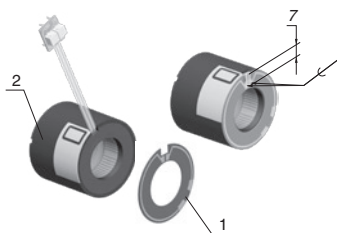

FIGURE D-3. INSTALLATION OF THE BOARD TO THE VARIABLE GAIN TUBE
- Glue the board (Figure D-3, 1) onto the rear end surface of the variable gain tube.
- Cut the flexible circuit of the tube according the Figure D-3.